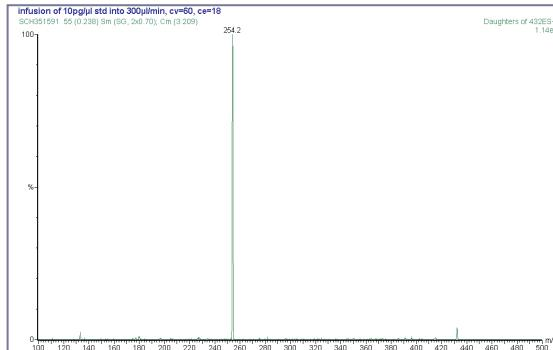

Figure 4. Product ion spectrum of compound SCH 351591.
1. Figures 4 and 5 show the following product ion spectrum was obtained by direct infusion of a 10 pg/ μ L standard at 10 μ L/min into the mobile phase flowing at 300 μ L/min.